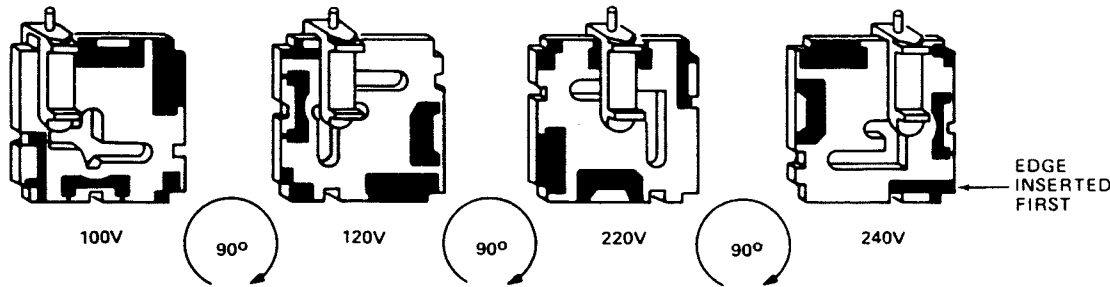

Figure 3-4. Voltage Selection - Power Entry Module
The Model CDP-1000 Digital Sound Processor and CDR-7035 Reader are designed for operation from a 100 Vac, 120 Vac, 220 Vac, or 240 Vac, 50-60 Hz, single-phase, 480 volt-ampere source. The power entry module on the Processor (see figure 3-4) provides the means for input voltage selection. Check the AC line voltage and adjust the setting of the power entry module (if necessary) as follows:
- b. Using a small blade screwdriver or a similar tool, open the cover of the power entry module (see figure 3-4). Insert the tool in the small opening on the left side of the cover, and wedge the cover off of the power entry module housing.
- c. The cover includes the fuse block assembly (see figure 3-4). Set the cover/fuse block assembly aside.
- e. Orient the voltage selector card so that the desired voltage is inserted first into the module (see figure 3-4). Orient the indicator pin so that it points out when the card is re-inserted into the module.
- f. Insert the voltage selector card into the power entry module housing with the silk screened legend side of the card facing the three-prong connector and the edge containing the selected voltage going into the housing first. (See figure 3-4.)
2. Using a small blade screwdriver or a similar tool, open the cover of the power entry module (see figure 3-4). Insert the tool in the small opening on the left side of the cover, and wedge the cover off of the module housing.
3. Check the fuse block to see whether it is configured for North American or European fusing (see figure 3-4). If the fusing arrangement is correct for the particular location, proceed to step 4. Otherwise, proceed to step 3.a to convert to the European Fusing Arrangement, or to step 3.b to convert to the North American Fusing Arrangement.
- (1) Loosen the Phillips screw two turns, and remove the fuse block by sliding up, then away from the Phillips screw, and lifting up from the pedestal.
- (2) Invert the fuse block, and slide it back onto the Phillips screw and pedestal.
- (3) Compare the fuse block configuration with the "European Fusing Arrangement" illustration in figure 3-4. If correct, tighten the Phillips screw.
- (3) Compare the fuse block configuration with the "North American Fusing Arrangement" illustration in View A of figure 3-4. If correct, tighten the Phillips screw.